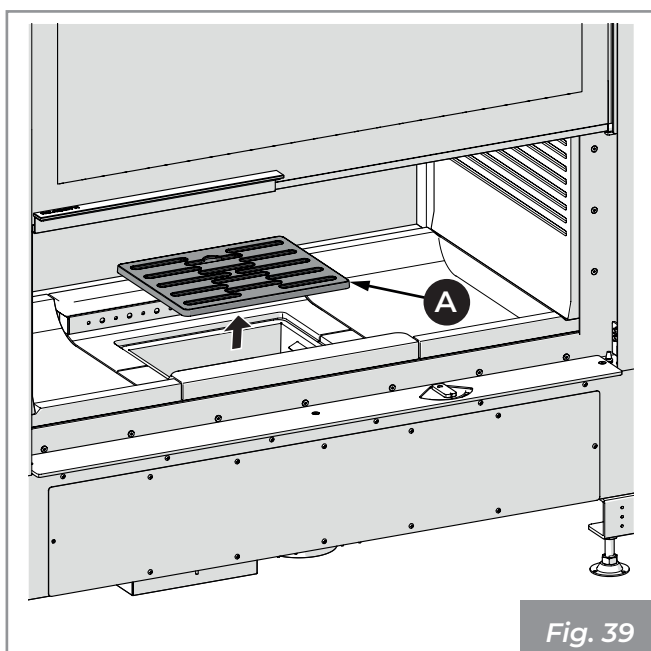

Fig. 39
- 1) Make sure that the grate (A) (Fig. 39) is free from any combustion residues that may obstruct the free passage of air. Remove it and clean the fire box using a hand brush (not supplied) conveying the combustion residues into the ash drawer. Pay attention to any burning embers.